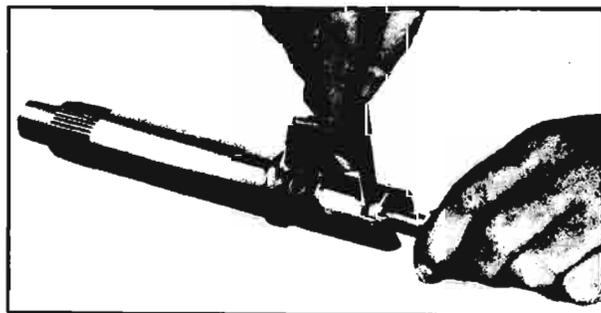

Fig. 4-51—Checking Lash Adjuster End Clearance
3. Assemble the lash adjuster with shim in the slot in the end of sector shaft. Check the end clearance which should not be greater than .002" (fig. 4-51). For the purpose of adjusting this end clearance, a steering gear lash adjuster shim unit Part Number 605142 is available. It contains four shims—.063", .065", .067" and .069" thick.